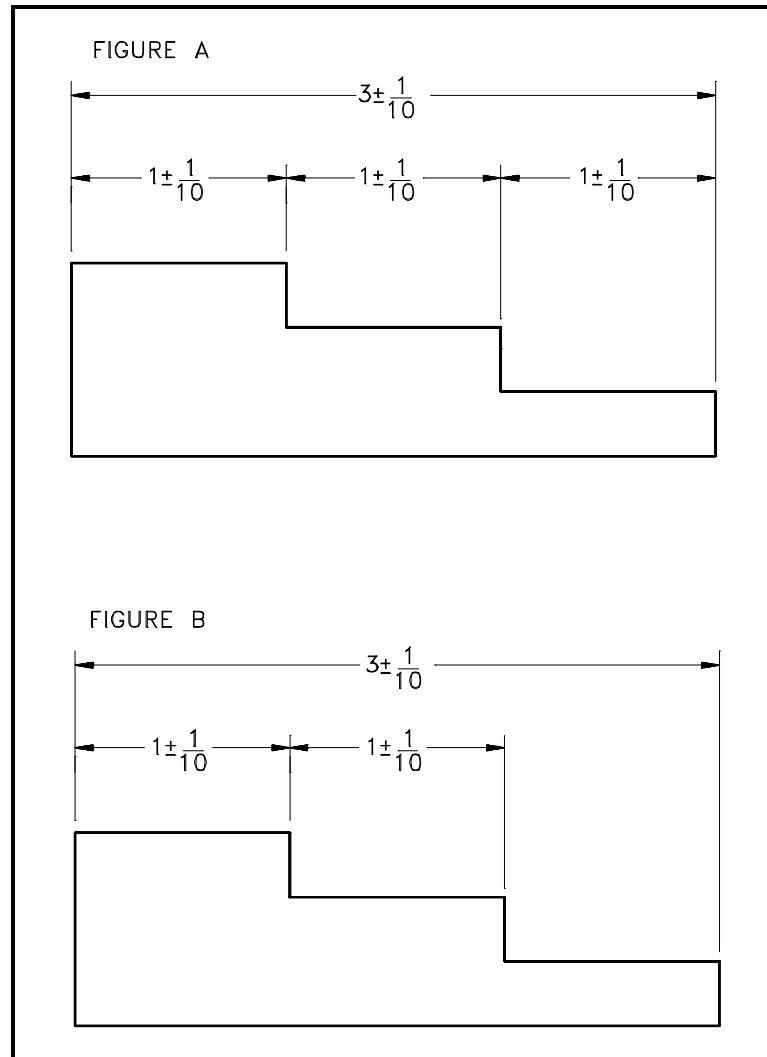

Figure 8 Example of Tolerancing
Because tolerances allow a part or the placement of a part or feature to vary or have a range, all of an object's dimensions can not be specified. This allows the unspecified, and therefore non-toleranced, dimension to absorb the errors in the critical dimensions. As illustrated in Figure 8 (A) for example, all of the internal dimensions plus each dimension's maximum tolerance adds up to more than the specified overall dimension and its maximum tolerance. In this case the length of each step plus its maximum tolerance is $1 \frac{1}{10}$ inches, for a maximum object length of $3 \frac{3}{10}$ inches. However the drawing also specifies that the total length of the object cannot exceed $3 \frac{1}{10}$ inches. A drawing dimensioned in this manner is not correct, and one of the following changes must be made if the part is to be correctly manufactured.
To prevent this type of conflict, the designer must either specify different tolerances for each of the dimensions so that the length of each smaller dimension plus its maximum error adds up to a value within the overall dimension plus its tolerance, or leave one of the dimensions off, as illustrated in Figure 8 (B) (the preferred method).